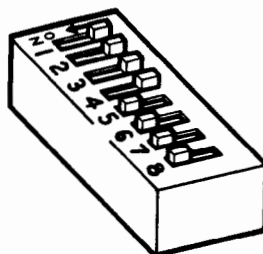

Fig. 2—Standard Switch Positions
1.09 The option switches on the logic circuit card are factory optioned and should not be changed unless the local engineering requirements specify incorporating a nonstandard option (Fig. 2).